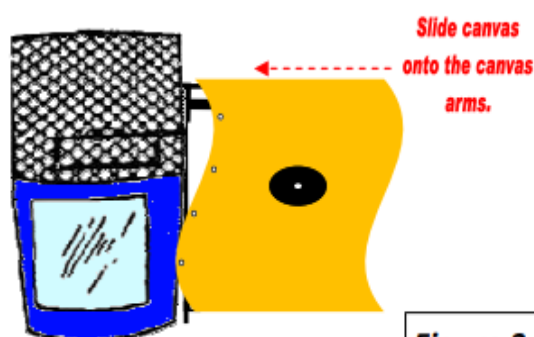

Figure 3
4. Slide the canvas onto the top and bottom canvas arms. (See **Figure 3**.)